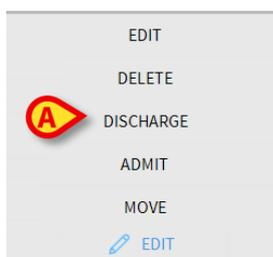

Fig 115
A menu containing various options opens (Fig 115).
- Click the **Discharge** button (Fig 115 **A**)